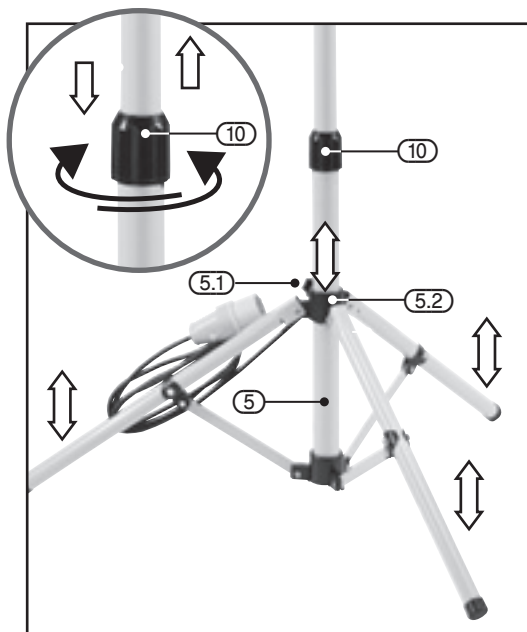

FIG.10
9.2 TRIPOD STAND ADJUSTMENT – FIG. 10